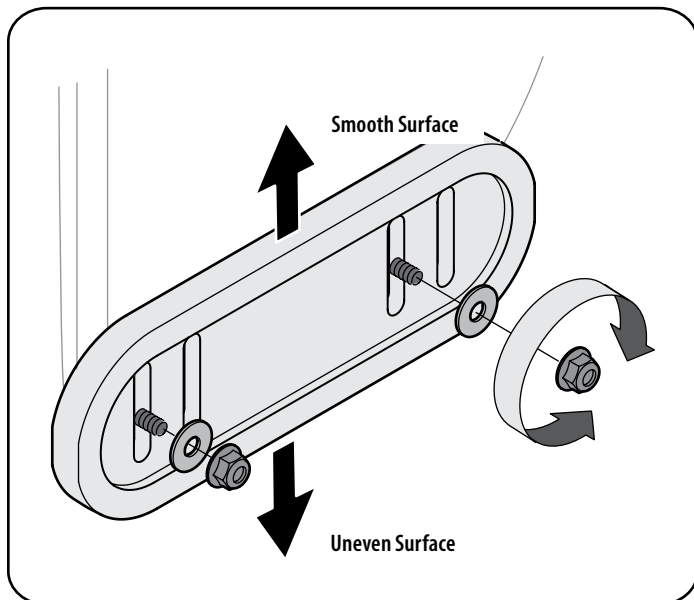

Figure 36
- For close snow removal on a smooth surface, raise skid shoes higher on the auger housing. See Figure 36.
1. Loosen the four hex nuts (two on each side), flat washers, and carriage bolts. Move skid shoes to desired position. See Figure 36.
NOTE: The skid shoes on your unit may look slightly different (and have different hardware) than ones shown in Figure 36.